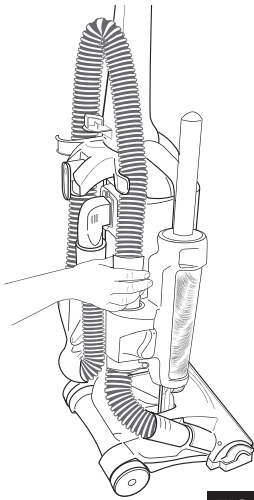

FIG. 10
Step 1: To use accessories, remove hose from the top of the self-cleaning duster by lifting up and twisting (FIG. 10).
Paso 1: Para usar los accesorios, retire la manguera de la parte superior del plumero autolimpiador levantándola y girándola (FIG. 10).